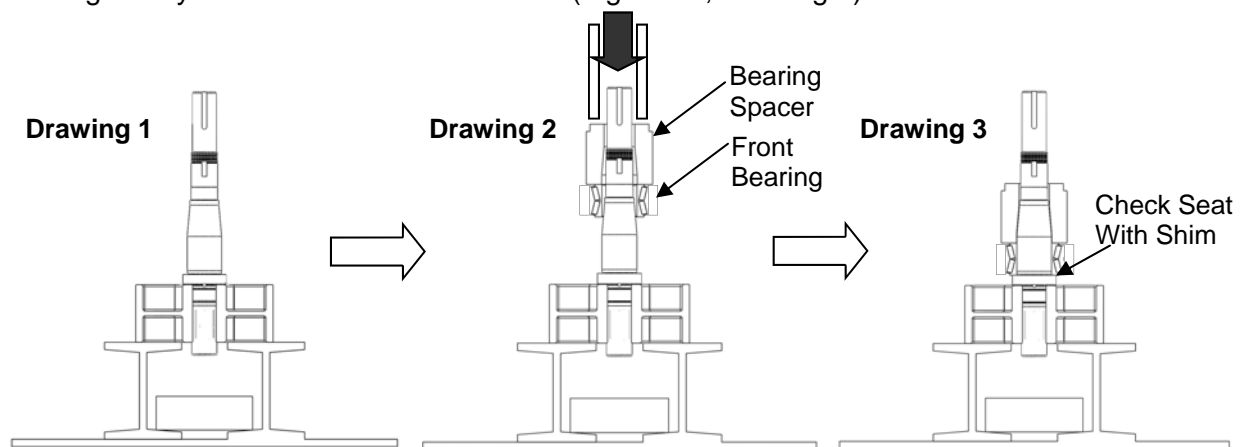

Figure 36: Pressing Front Bearing onto Shaft
1) Clean all reusable parts prior to reassembly. Apply a light coat of lubricant on the shaft area where the front bearing will sit. Position the shaft upright in the press with the rotor end facing down (Figure 36, Drawing 1). Open the new front bearing assembly and be sure not to interchange any parts. All bearings are manufactured as sets and assembled to have a precise overall length. Place the front bearing over the shaft along with the bearing spacer (Figure 36, Drawing 2). Make sure the bearing and spacer are aligned before pressing them on. Reference Table 5 for the required force (in tons) needed to press the bearings on to the shafts. Using a sleeve that rests on the bearing spacer and rides over the shaft, press the bearing on until it seats against the shaft shoulder. A shim can be used to ensure that the bearing is fully rested on the shaft shoulder (Figure 36, Drawing 3).